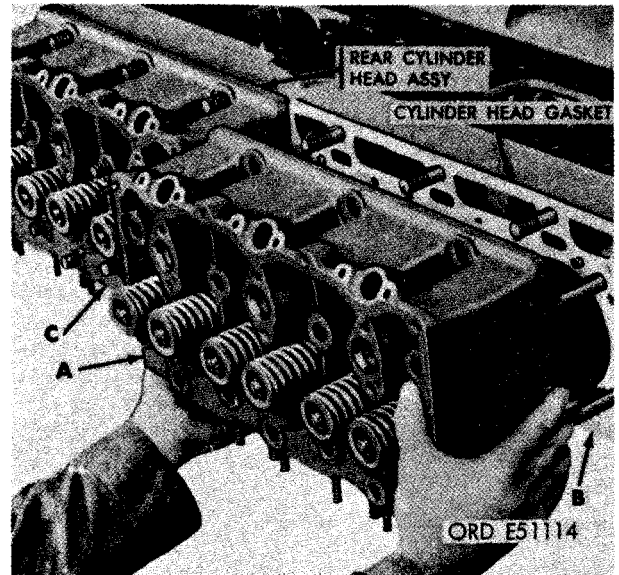

FIGURE 272. REMOVING OR INSTALLING FRONT CYLINDER HEAD ASSEMBLY.
- (2) Figure 272. (A) Remove front cylinder head assembly. (B) Remove and discard cylinder head gasket. (C) Remove rear cylinder head assembly in the same manner. Remove and discard cylinder head gasket.